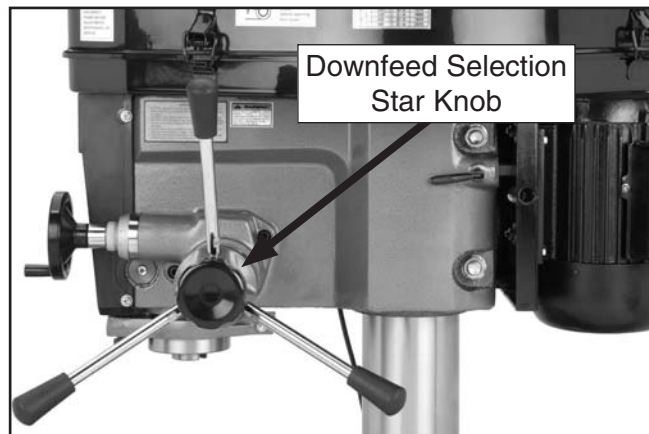

Figure 47. Downfeed selection start knob.
1. Unthread and remove the downfeed selection star knob from the coarse downfeed handle hub (see **Figure 47**).